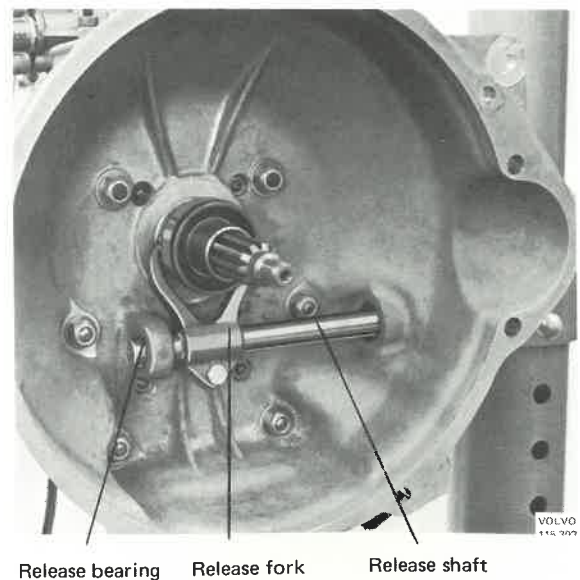

Fig. 41-5. Installing the clutch
4. Fit a new seal on the release shaft and grease it. Hold the release fork in position and insert the release shaft. When the seal is compressed and the distance between the lever and casing is as shown in Fig. 41-5 then tighten up the bolt.